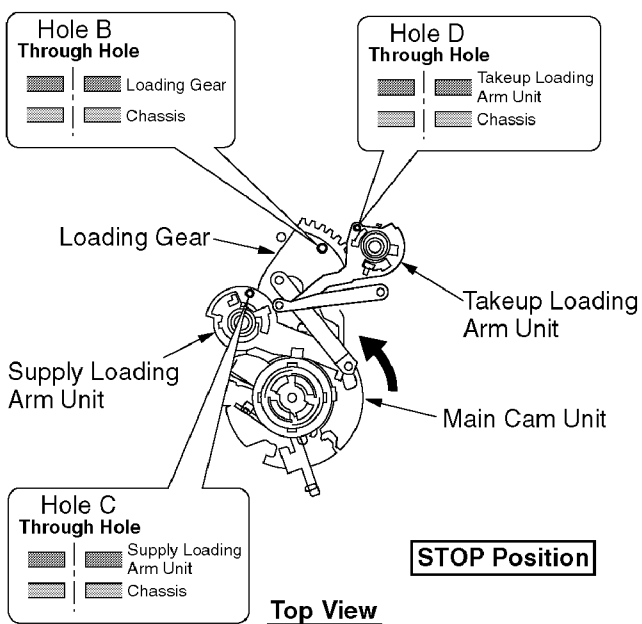
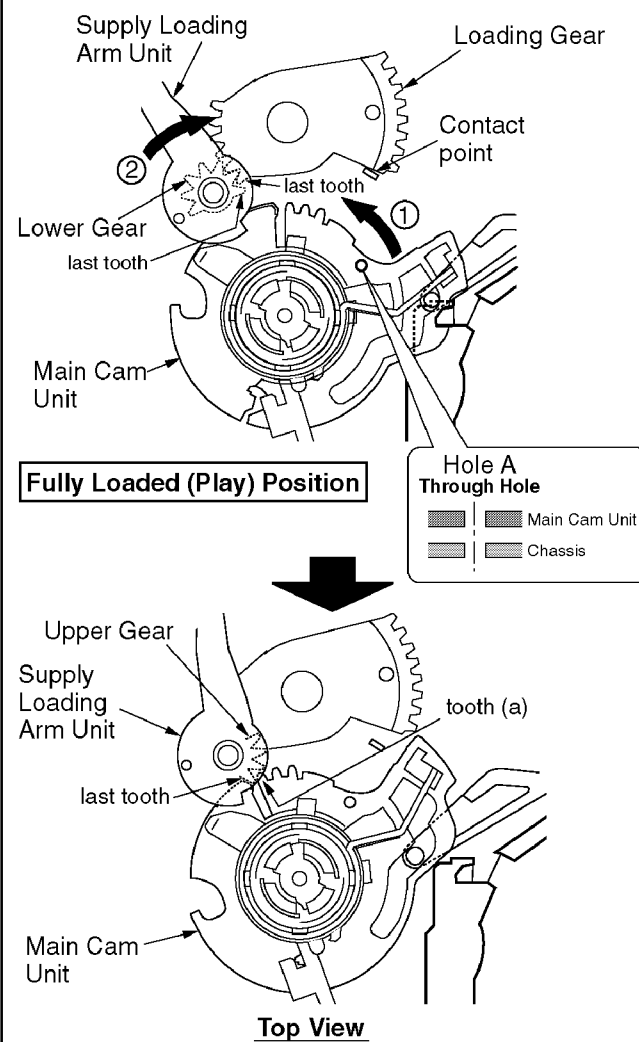

Fig. DM20
Fig. DM21-2
- Before installing the Loading Base Unit, rotate the Main Cam Unit clockwise (to change the gear position from STOP position (Fig. DM20) to Standby position (Fig. DM19-2)) so that Holes A, B, C, and D are Through Holes with holes on the chassis.
- (1) Rotate the Main Cam Unit counterclockwise (to change the gear position from Fully loaded position (Fig. DM21-2) to STOP position (Fig. DM20)) so that Hole C on the Supply Loading Arm Unit and Hole B on the Loading Gear are Through Holes with holes on the chassis.
- (2) Install the Takeup Loading Arm Unit while aligning Hole D with the hole on the chassis (Through Hole) as shown.